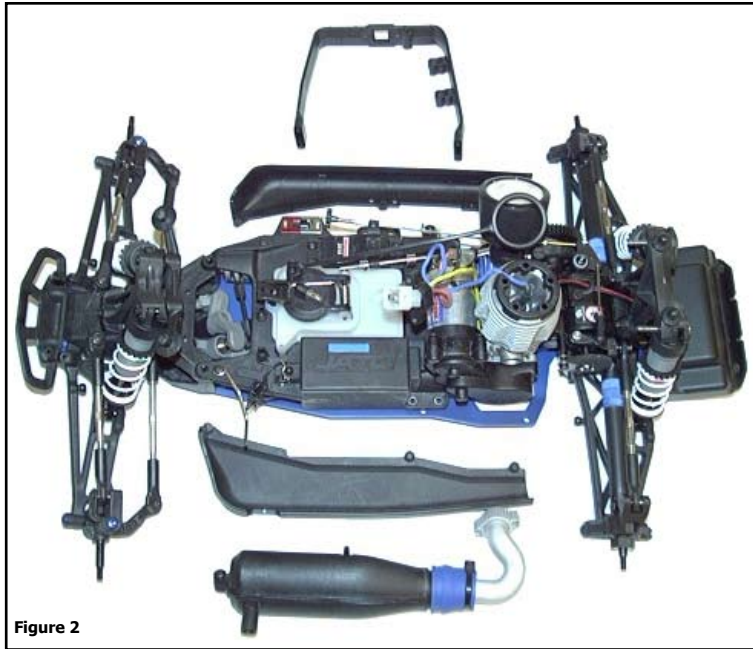

Figure 2
1. Remove the body, wheels, exhaust pipe, side guards and roll bar as shown in *Figure 2*.